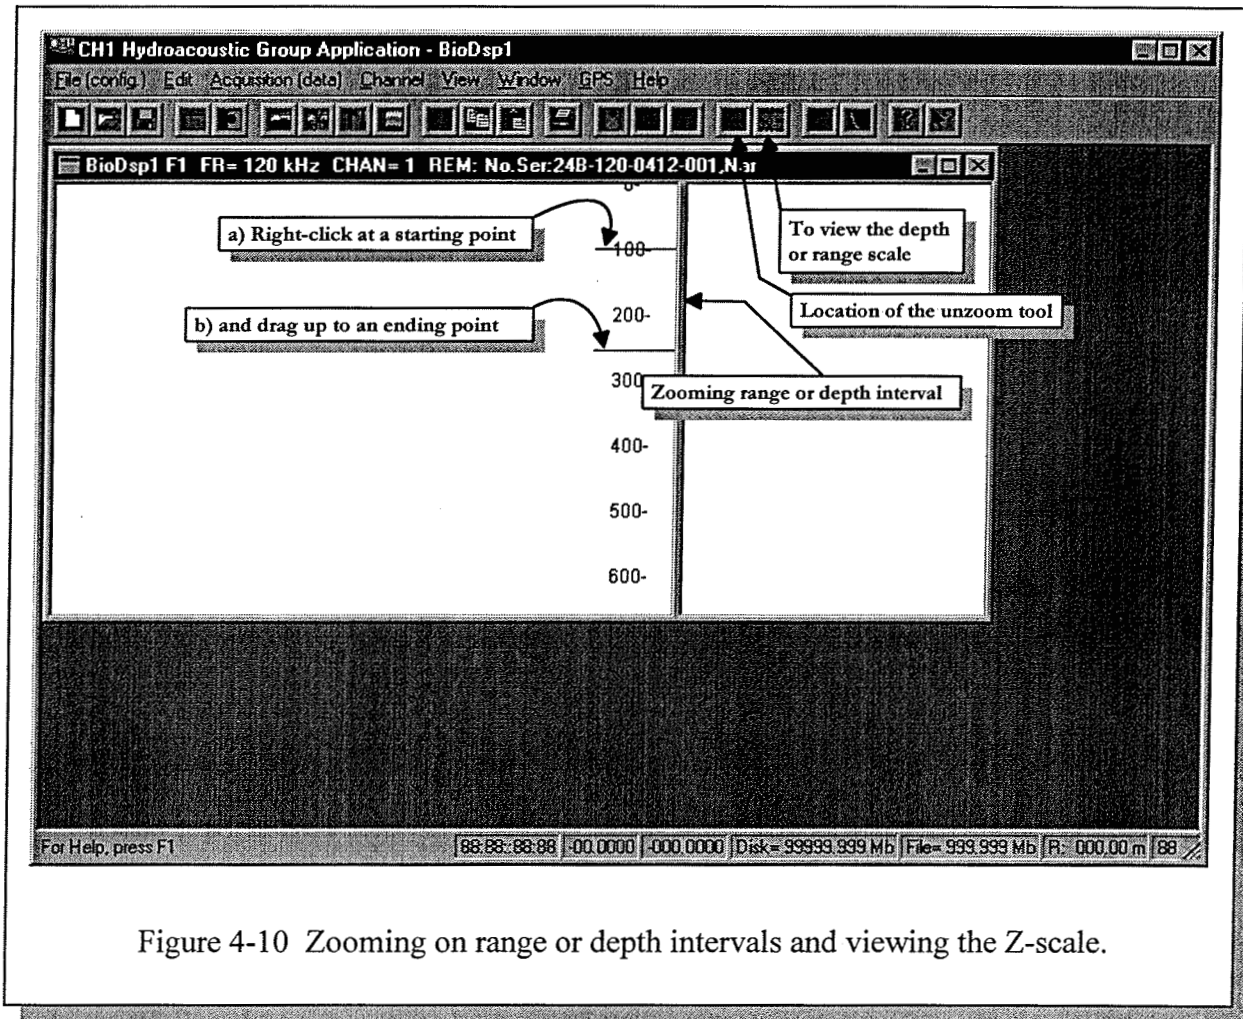

Figure 4-10 Zooming on range or depth intervals and viewing the Z-scale.
8. To zoom along the range or depth axis in the channel windows, click on the echogram window. Then right-click and hold the mouse (a horizontal bar appears, Figure 4-10.) at a start range and hold it down while moving to an ending range. To get a vertical scale, click the Z-Scale icon. To unzoom, click the unzoom icon. Click the palette icon to get the palette colour you want. Note that **CHI** keeps only the last 20 pings for display when the screen is refreshed.
To zoom along the range or depth axis, click on the echogram window. Then right-click and hold the mouse (a horizontal bar appears, Figure 4-10.) at a start range; hold it down while moving to an end range. To get a vertical scale, click on the Z-scale tool. To unzoom, click on the Unzoom tool. Note that *CHI* keeps only the last 20 pings for display when the screen is